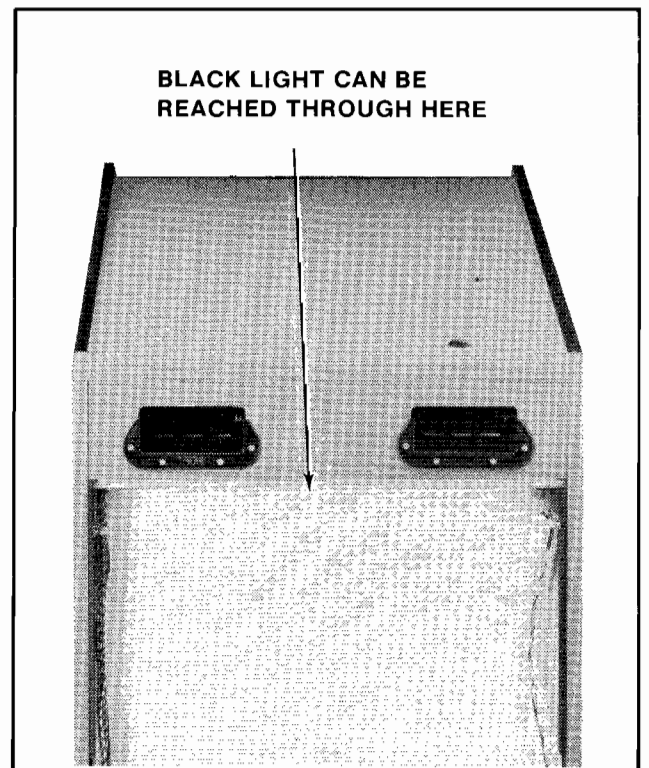

**Figure 4-15 Replacing Fluorescent Tube Starter**
**WARNING: If you drop a fluorescent tube and it breaks, IT WILL IMplode! Shattered glass can fly six (6) feet or more from the implosion. Use care when replacing any fluorescent tube.**
- Replacing the fluorescent light tube starter. See Figure 4-15.
**WARNING: If you drop an ultraviolet light tube and it breaks, IT WILL IMplode! Shattered glass can fly six (6) feet or more from the implosion. Use care when replacing any ultraviolet tube.**
- Replacing the ultraviolet light tube starter. See Figure 4-15.